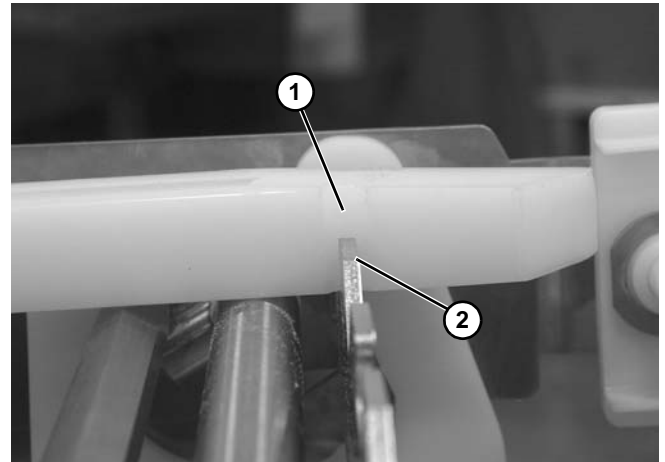

Figure 40
3. Attach new wear strips by installing the slotted area (Figure 40, item 1) on wear strip over the tab (Figure 40, item 2) on the crossmember.